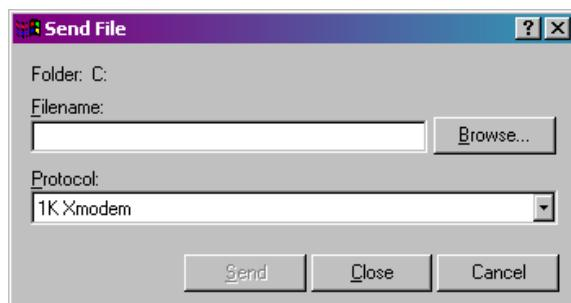
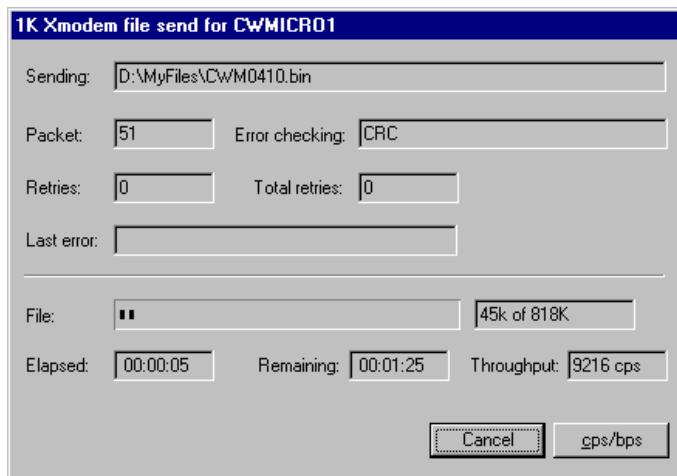

Figure 5-3. Send File dialog box
Figure 5-4. HyperTerminal (Download in Process)
- 8.** In the Send File dialog box (see *Figure 5-3*), select **1KXmodem** for the protocol, enter the filename of the appropriate .bin file in the format “CWPxxxx.bin” (where xxxx varies from release to release) and click **Send** to start the flash upgrade (see *Figure 5-4*). When you see the HyperTerminal Mode Menu again, it means the download has completed.